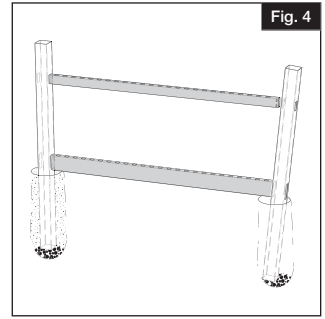

Fig. 4
- a. Insert top and bottom rails into top and bottom post hole routes of both posts (Fig. 4).